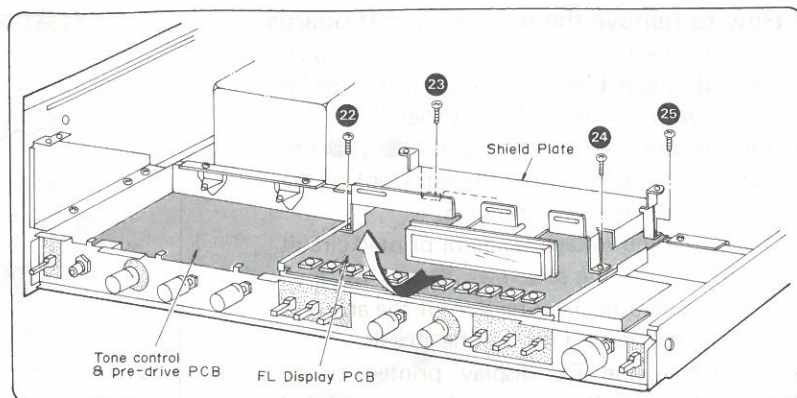

Fig. 6
4. To detach the FL display printed circuit board (center), first remove the tuner printed circuit board and the 4 setscrews (Fig. 6 : ㉒ ~ ㉕) of the shield plate (upper), and then lift the circuit board in the direction of the arrow in Fig. 6.